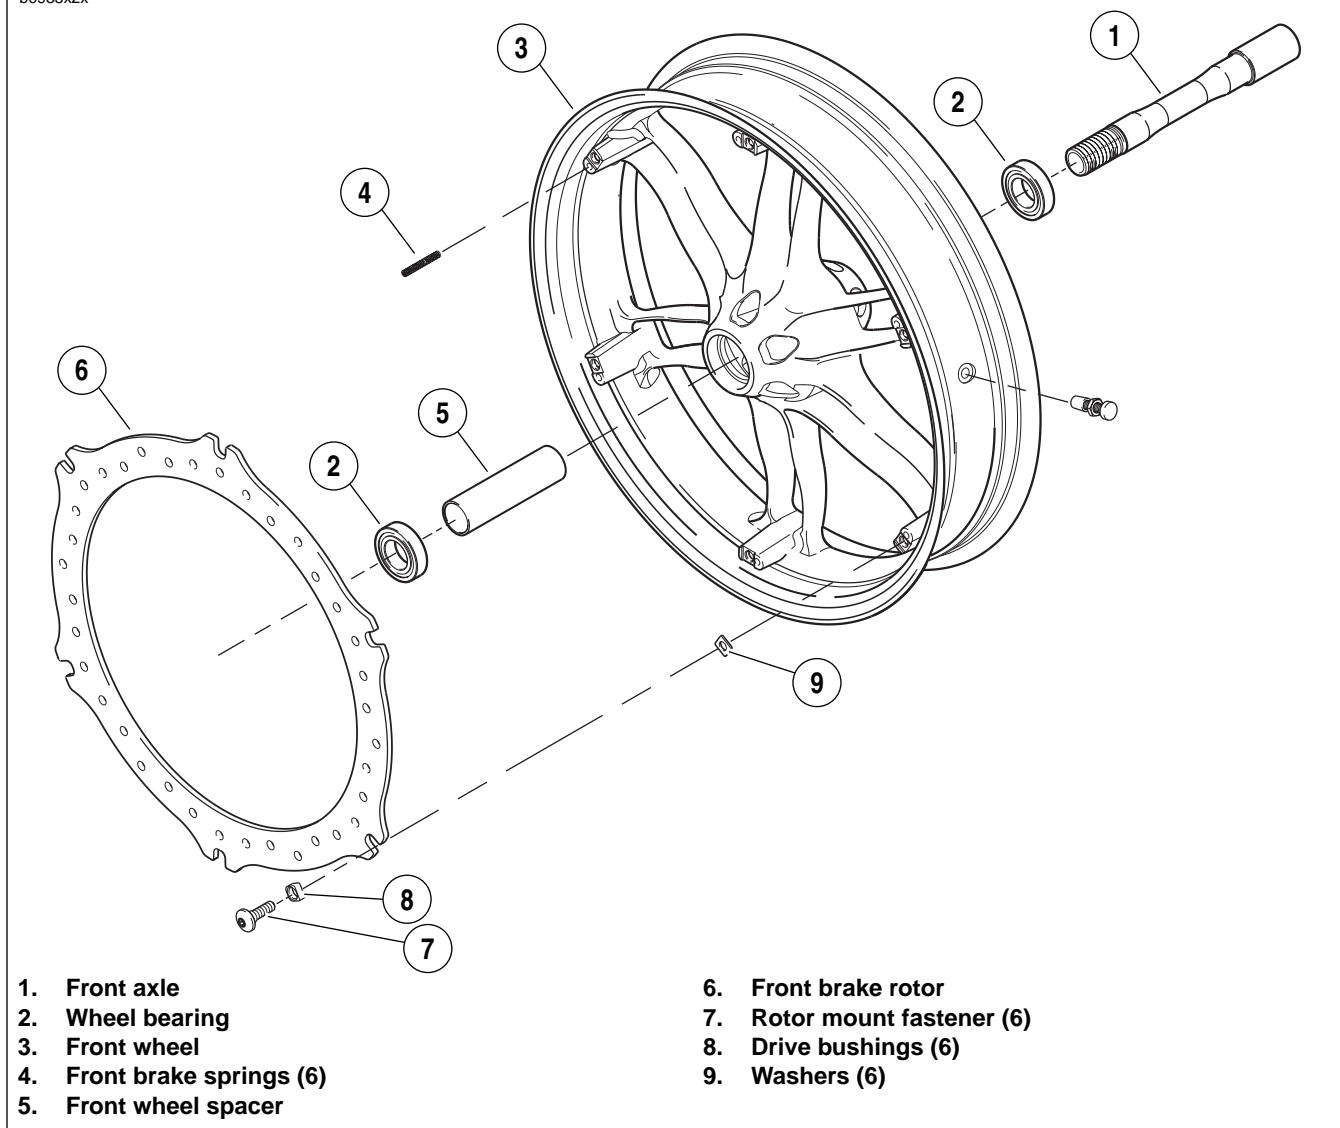

Figure 2-18. Front Wheel Assembly
1. See Figure 2-18. Remove and discard rotor mounting fasteners (7).
2. Remove and inspect brake rotor (6) for wear and warping. See 2.12 FRONT BRAKE CALIPER/1.6 BRAKE SYSTEM MAINTENANCE.
3. Remove drive bushings (8) and discard.
4. Remove washers (9) and discard.
5. Remove front brake springs (4) and discard.
1. See Figure 2-18. Install spacer (5).
2. Install **new** wheel bearings (2) into hub using suitable driver. Press on outer race only.
1. See Figure 2-18. Install **new** spring (4).
2. Install **new** washers (9).
3. Install **new** drive bushings (8) into rotor.